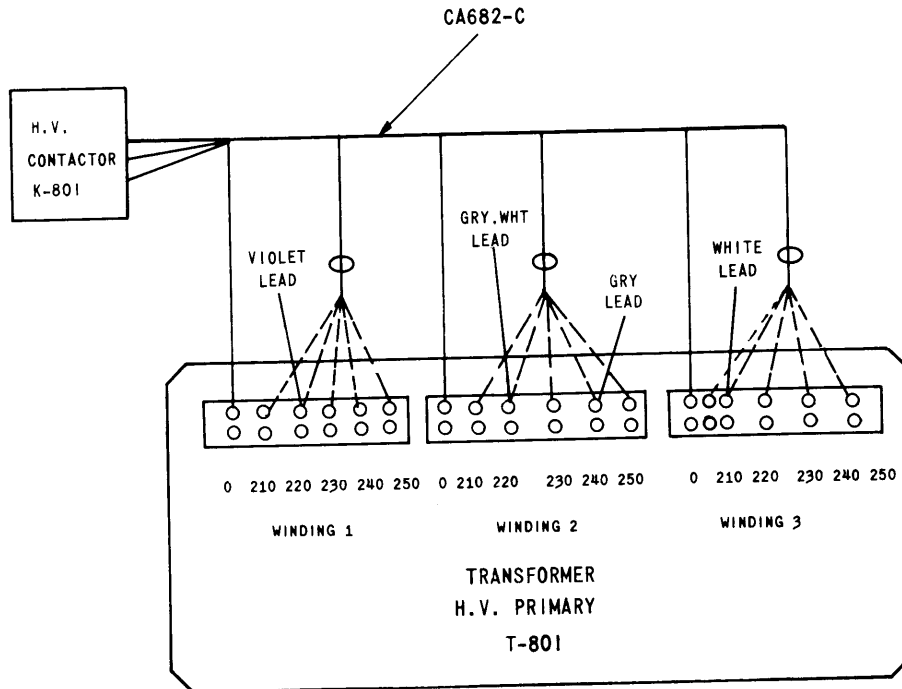

Figure 2-2. Transformer HV Primary Connections
- c. Refer to figure 5-12 and position transformer in frame accordingly. Connect transformer leads in the following manner: Refer to figure 2-2 and connect CA-682 to transformer primary terminals. Each of the three primary sections will have three heavy insulated black leads that must be connected between terminal "0" and the corresponding primary ac input voltage tap (210, 220, 230, 240 and 250).
Additionally, there are small insulated leads that must be connected to the primary sections. (Refer to figure 2-2.) Connect: